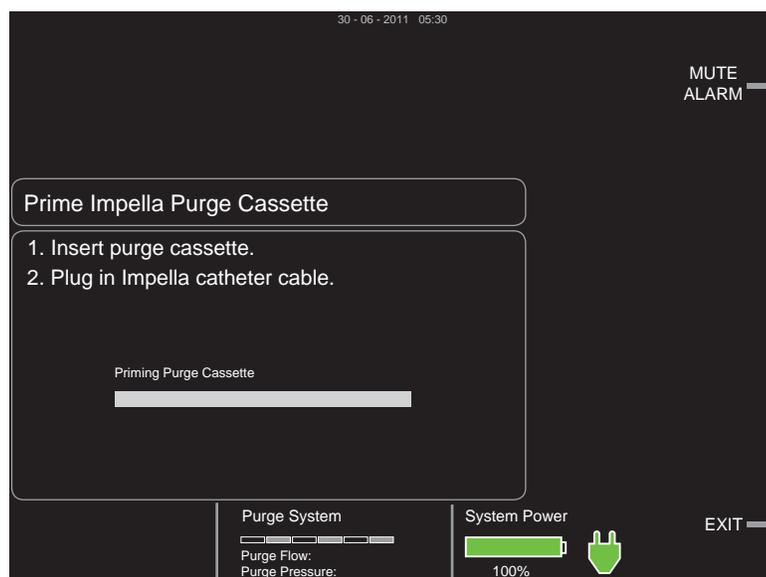

Figure 5.3 Initial Case Start Screen
2. Press the selector knob to select "Case Start." The controller displays the screen shown in Figure 5.3.
9. The controller automatically begins priming the purge cassette after it is inserted. The progress bar shown in Figure 5.3 marks the progress of the purge cassette priming.